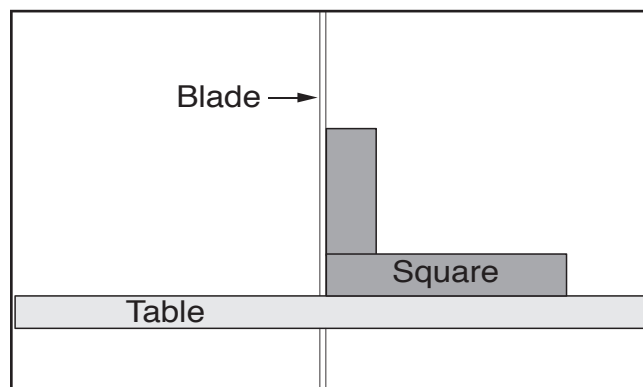

Figure 23. Square aligned with back of blade.
5. Place machinist's square flat on table against back of blade, as shown in **Figure 23**.